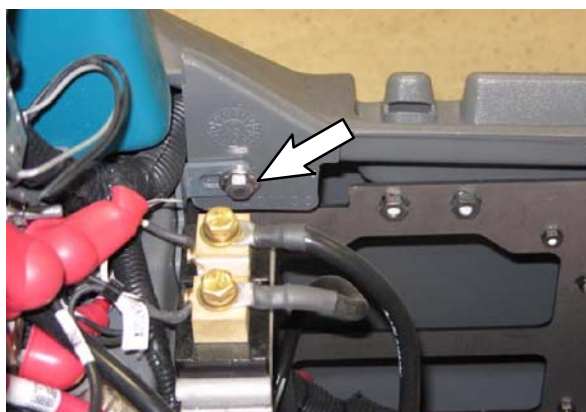

FIG. 1
1. Remove the SEMS M8 hex screw securing the side cover to the machine. Remove the side cover from the machine. Set the SEMS M8 hex screw and side cover aside. (Fig. 1)
9. Reinstall the side cover onto the machine and use the SEMS M8 hex screw to secure the side cover to the machine. (Fig. 1)